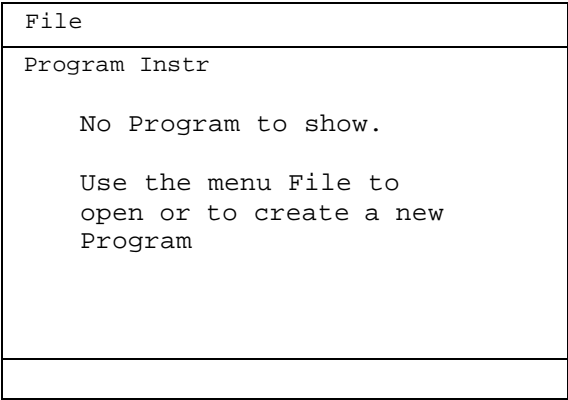
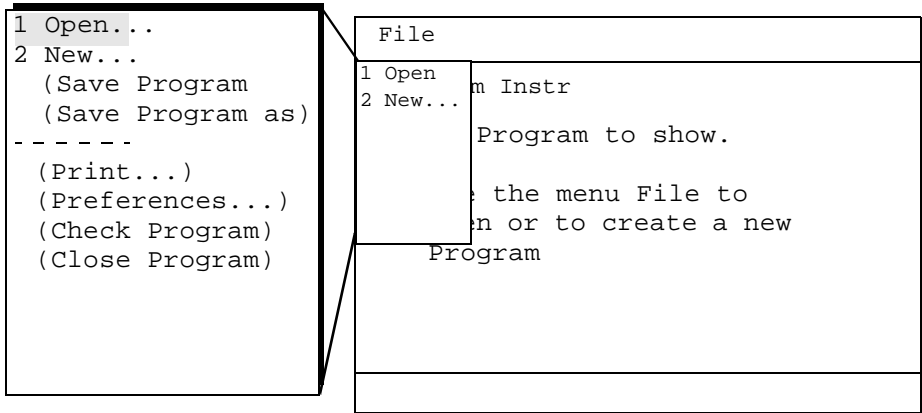

Figure 25 The Program window.
Figure 27 The File menu when there is no program in the robot’s internal memory.
If there is no program in the robot’s memory, the following window will appear (Figure 25), otherwise you will see the program that is stored in the memory of the robot.
- 4. Press the **File** menu key (see Figure 25 above). The window in Figure 27 will appear.